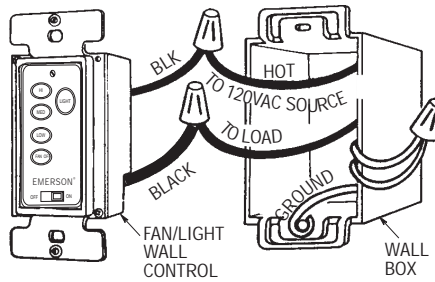

Figure 16
- ❑ 4. Connect one black wire of wall control to the "hot" wire. Securely connect wires with wire connectors supplied (Figure 16).